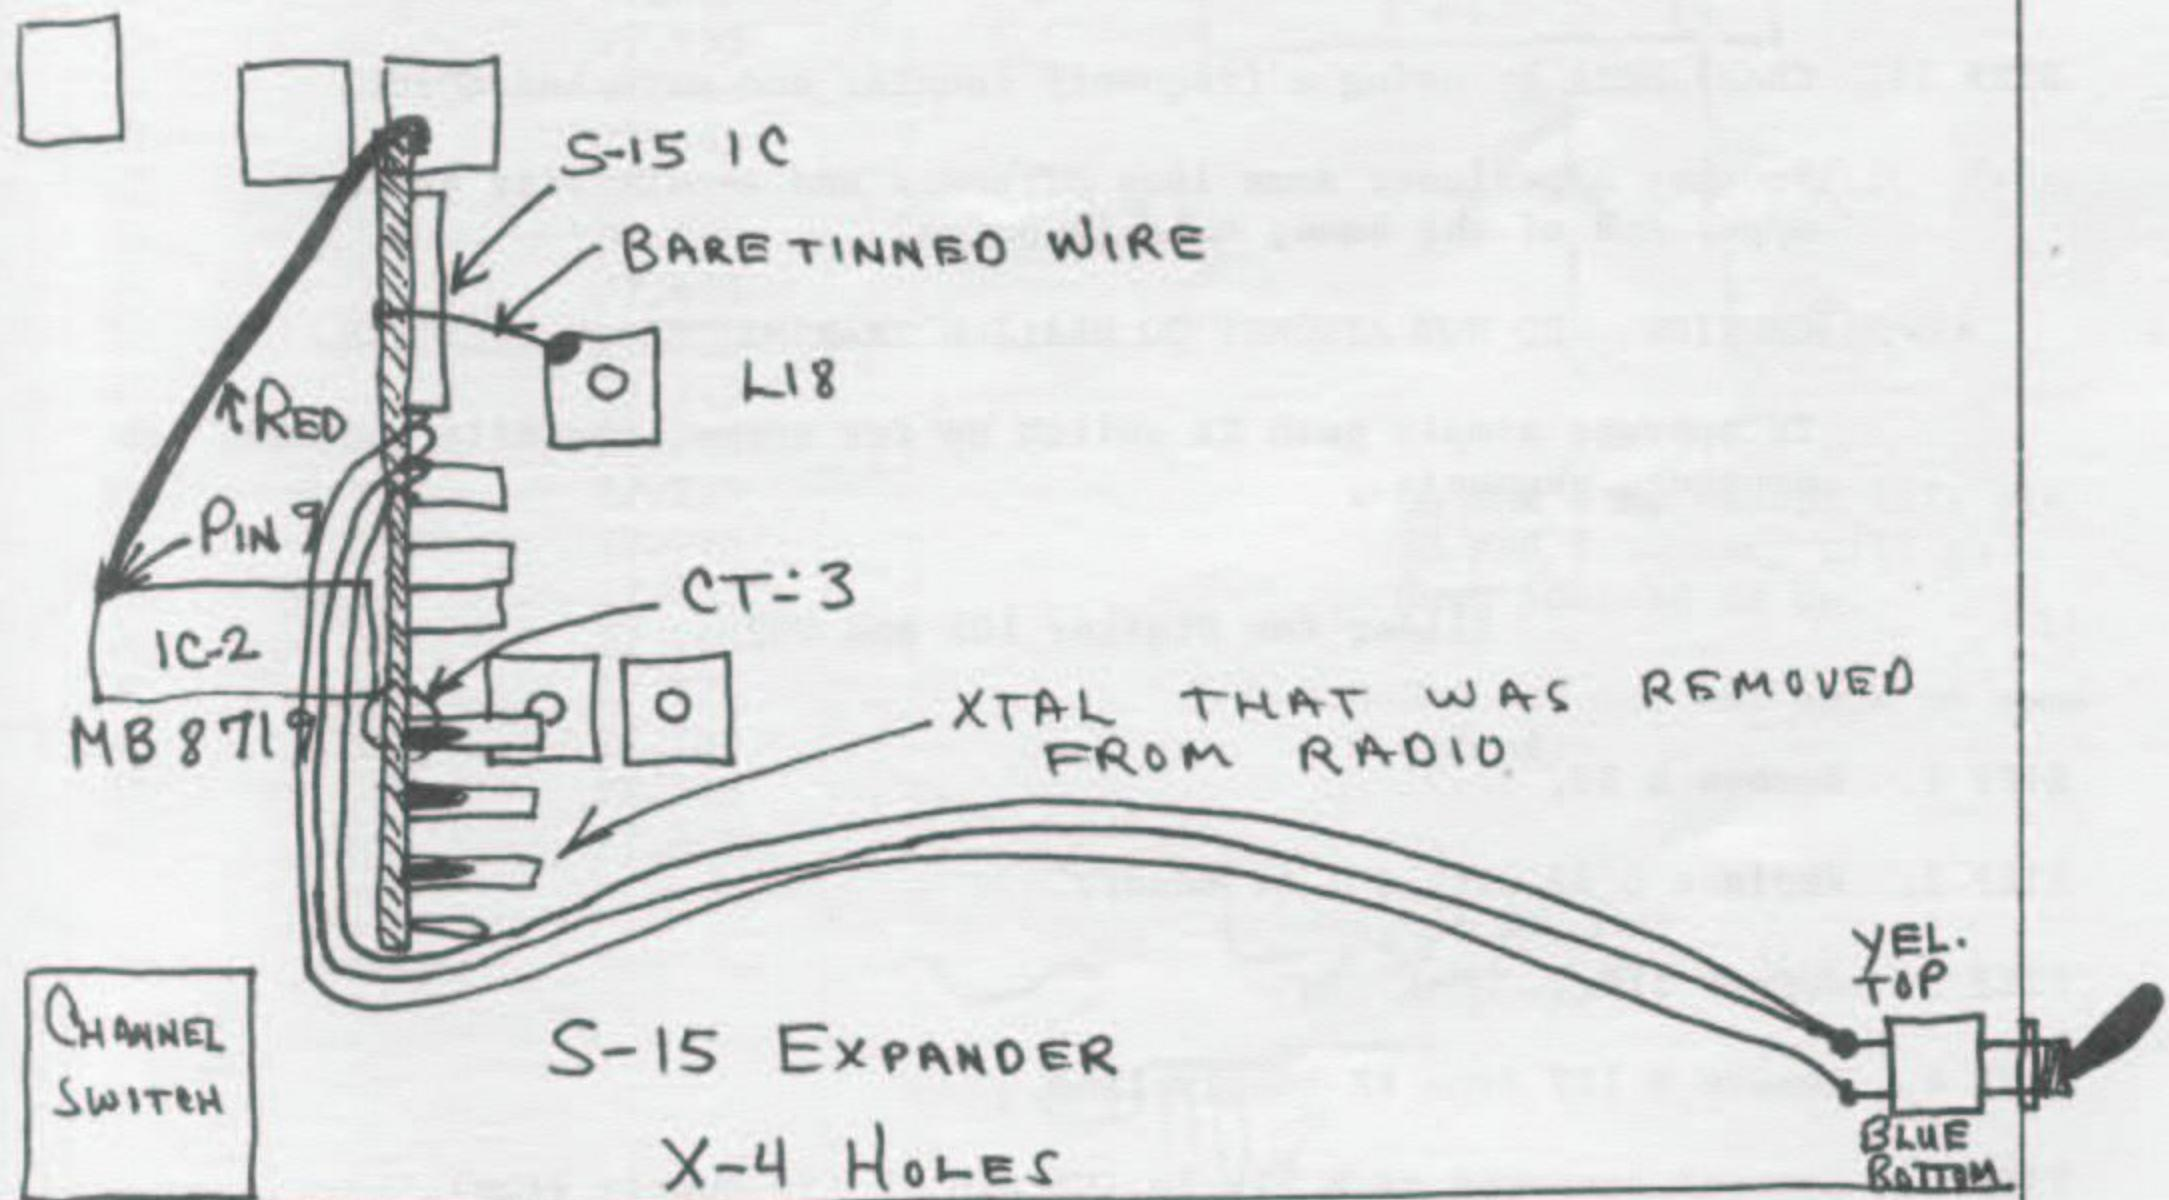

FIGURE 1
STEP 2. Locate PLL and remove cover in Fig. 1.
STEP 3. Locate D858 in Fig. 1 and cut pin 19 close to PC Baord as indicated in Fig. 2.
STEP 4. Solder a 1,000 Ohm $\frac{1}{4}$ watt resistor from pin 19 to supply line in Fig. 1.